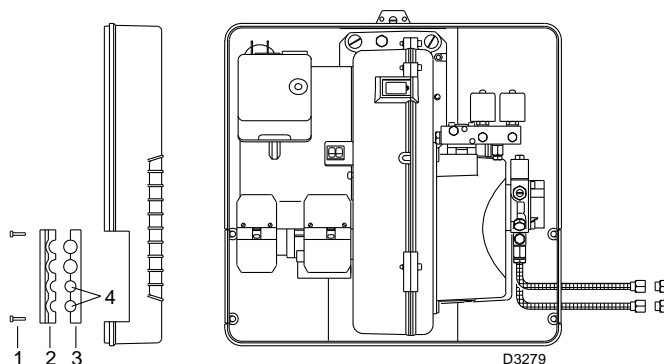

Fig. 19
- Route the hoses through the holes in the plate, preferably using those on the right side (Fig. 19);